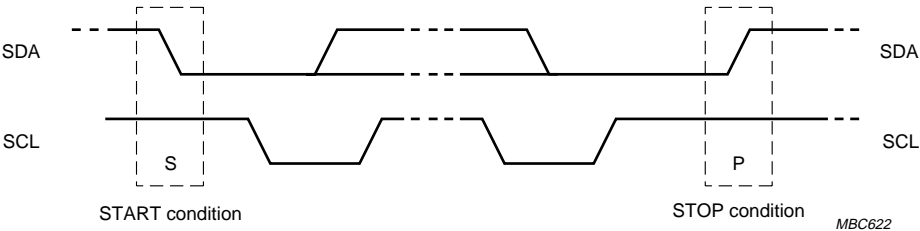

Fig.6 Definition of start and stop conditions.
Both data and clock lines remain HIGH when the bus is not busy. A HIGH-to-LOW transition of the data line, while the clock is HIGH is defined as the start condition (S). A LOW-to-HIGH transition of the data line while the clock is HIGH is defined as the stop condition (P) (see Fig.6).